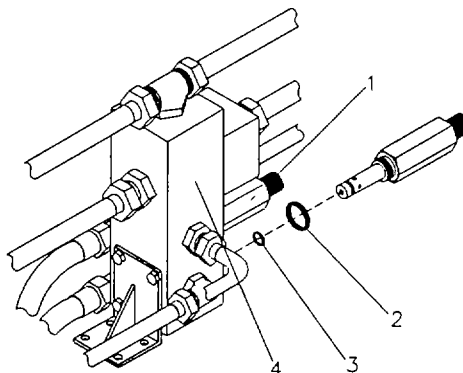

Figure 5-6. Hydraulic Relief Valves.
a. Removal. Refer to figure 5-6